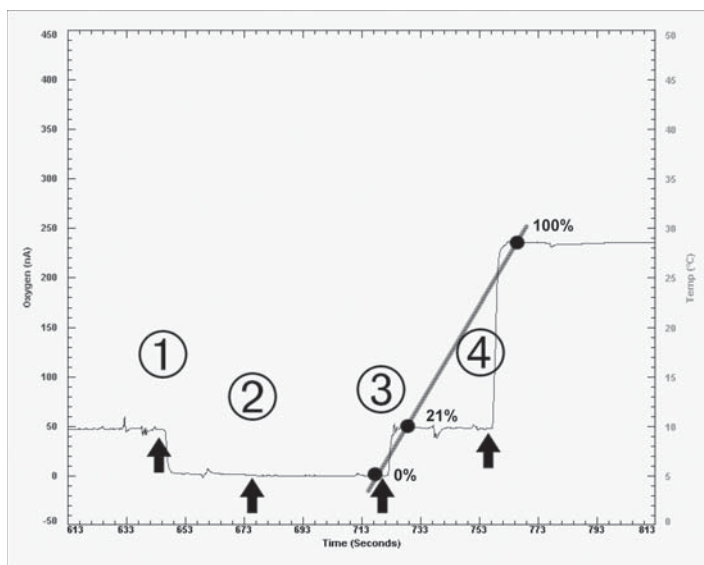

Fig. 14—Typical record of calibration
**Fig. 14** (next page) shows a typical record of the calibration procedure. Before point 1 the record displays the background current of the oxygen sensor in air. This current value may vary from sensor to sensor. At point 1 the sensor is exposed to 0% oxygen. At point 2 the background current is zeroed using the software. At point 3 and point 4 the sensor is exposed to air (21% oxygen) and 100% oxygen, correspondingly. By using the current at 0% (0nA) and 100% (236nA), a two-point calibration curve is built and the slope is determined at 2.36nA/%. Alternatively, a three-point calibration can be implemented by adding the information for the current of the sensor in air and by using linear regression software. The dotted line represents a typical linear regression.